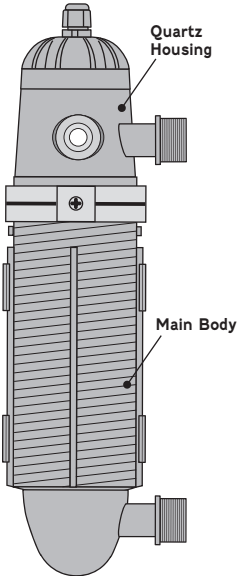

FIGURE 1
1. Unscrew locking ring screw and slide tab down to release. (FIGURE 1)
2. Unscrew locking ring screw and slide tab down to release. (FIGURE 1)
3. Carefully twist the quartz housing and the main body opposite of each other. (FIGURE 1)